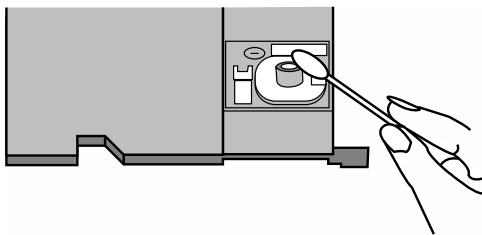

FIGURE 3-16 Illustration of how to use a cotton swab to lightly wipe the lens opposite the pick-up carriage. (Zenith Corp.)
- 2 Use a new cotton swab to lightly wipe the lens located opposite the pickup carriage section. Wipe two or three times in a spiral moving from the center to the outer periphery (Fig. 3-16).